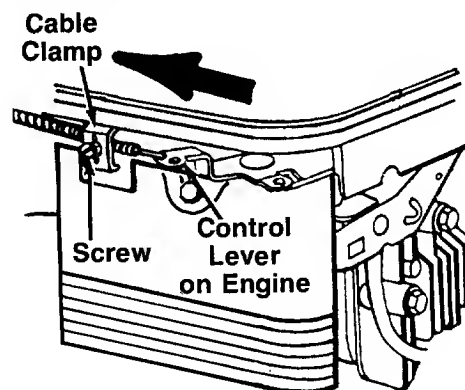

FIGURE 20.
1. Remove the screw shown in figure 20. Remove the cable clamp from the cable.